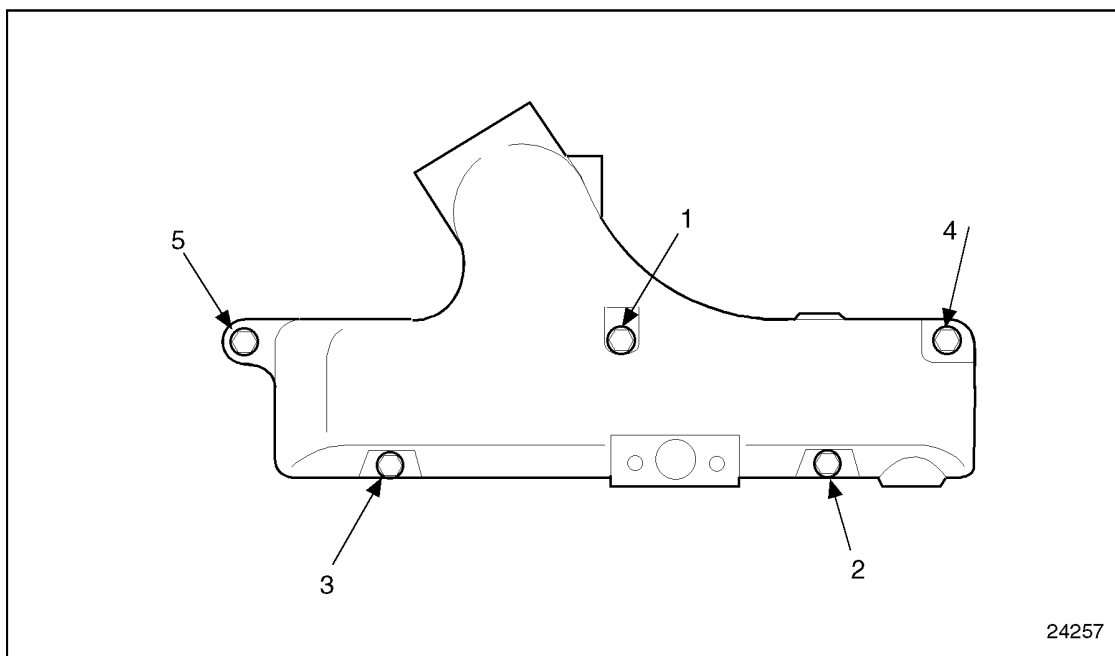

Figure 1-44 Intake Manifold Bolt Tightening Sequence
20. Remove all traces of the old gasket from the cylinder head and intake manifold joint surfaces. Install the intake manifold with new gaskets. Refer to Section 6.3.5. See Figure 1-44.